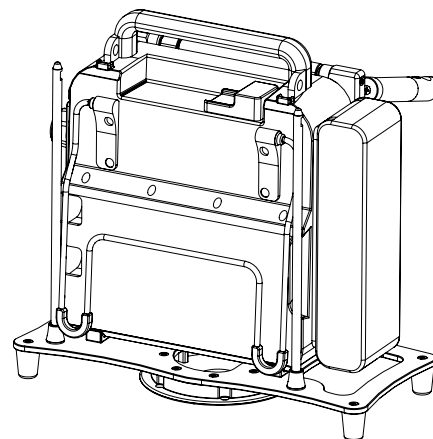

Figure 8: Unlocking and opening the support bracket
1. Press and hold the quick release buttons simultaneously, then lift the top of the support bracket towards the front (Figure 8).